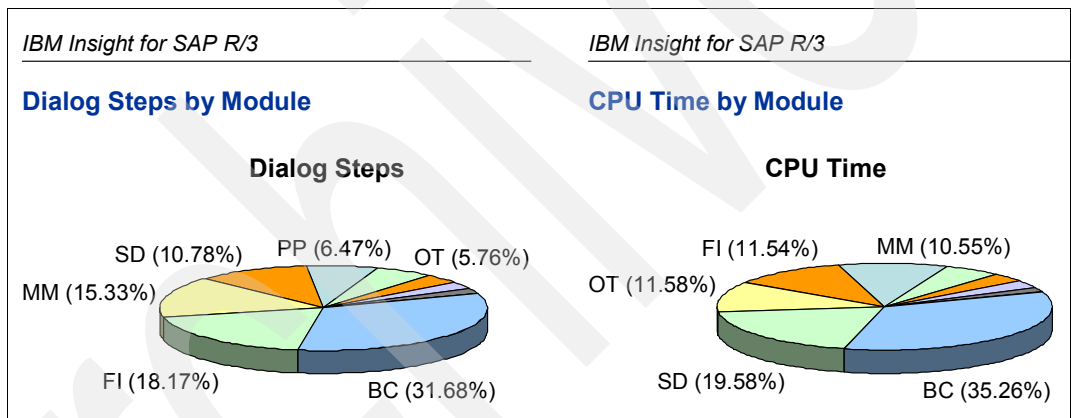

Figure 27-9 IBM Insight - Dialog Steps versus CPU Time by Module
- ▶ Comparison of dialog steps versus CPU time by module as shown in Figure 27-9.